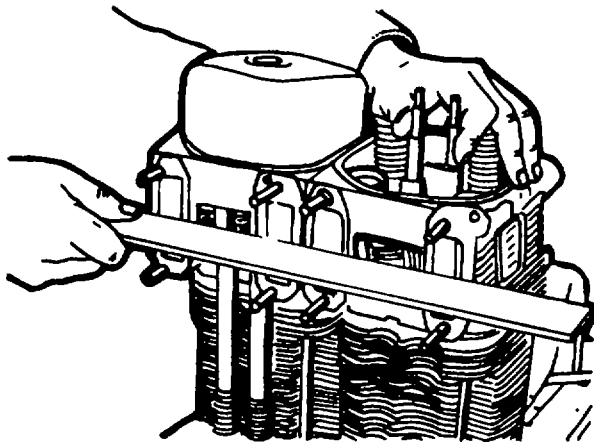

Figure 4-30. Aligning the Intake and Exhaust Flanges
- k. Assemble and hand-tighten the studs fitted with washers. Align the induction and exhaust flanges of the cylinder heads without disturbing the alignment of the cylinders (figure 4-30).